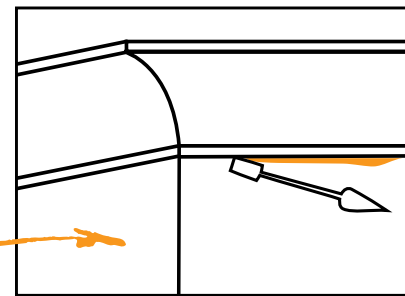

FIGURE 68 Clean Off Excess
- > Clean off excess and remove nails when cement has partially set [Figure 68]